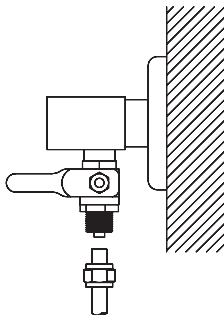

Figure 8. Mains inlet valve
- Opening up the ¼" ball valve, mains water is supplied to the system (Figure 8).
- When there not anyone in the house, close the water inlet valve of the appliance for safety purposes (Figure 8).
- In any unfavorableness (Figure 8) close the water inlet valve and consult Authorized Service.